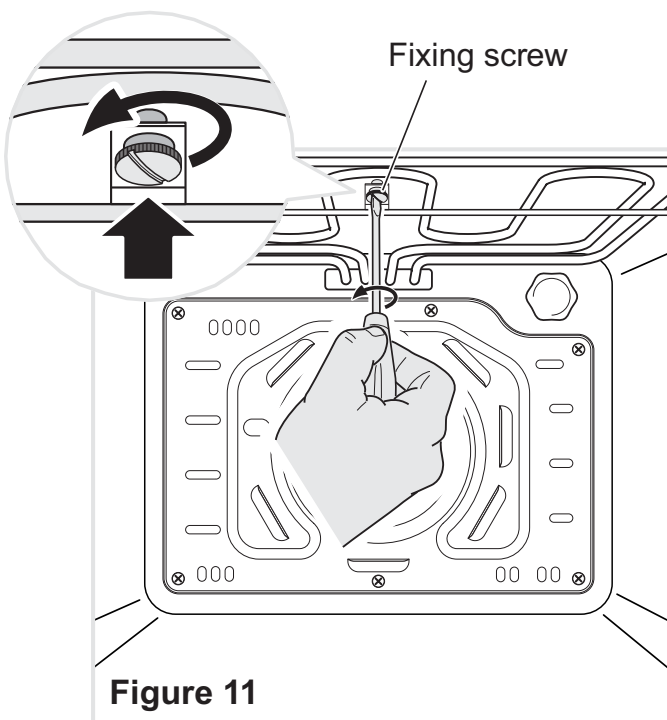

Figure 11
- To lower the grill element: use a flat-head screwdriver or a small coin to loosen the element fixing screw (fig. 11).